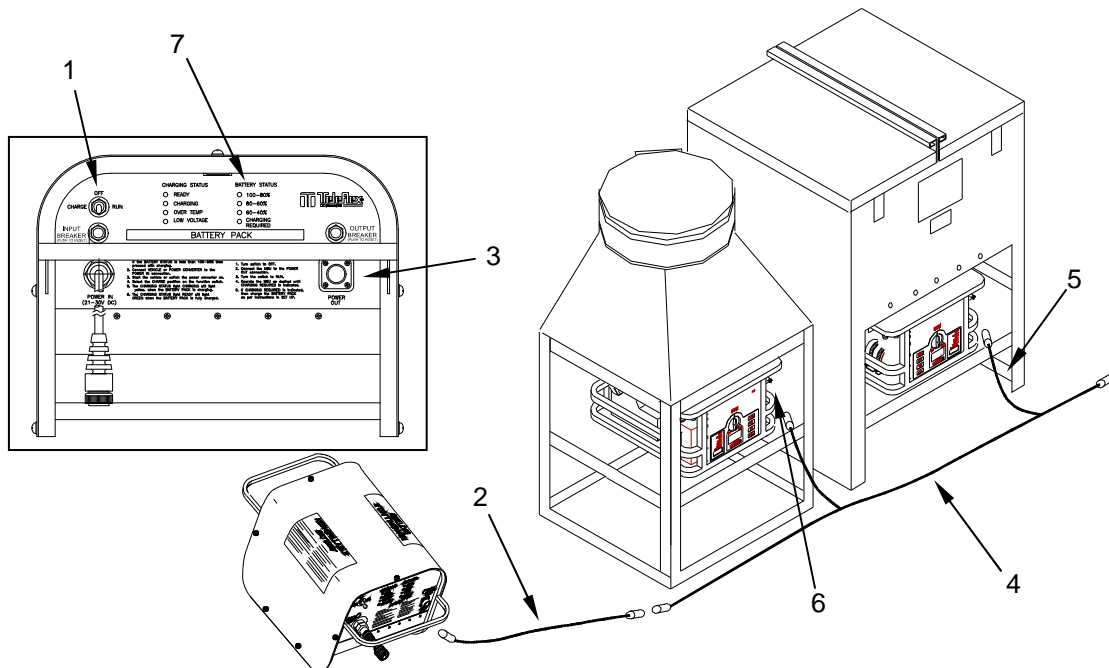

Figure 7. Connecting Power Cables Using the Battery Pack Alone.
1. With the battery pack 3-position function switch (Figure 7, Item 1) in the OFF position, connect one end of the 25-ft extension cable (if used for additional length) (Figure 7, Item 2) to the battery pack power output connector (Figure 7, Item 3).
2. Connect the opposite end of the 25-ft extension cable (Figure 7, Item 2) to one end of a 2-branch power cable (Figure 7, Item 4).
3. If the extension cable (Figure 7, Item 2) is not used, connect one end of the branch cable (Figure 7, Item 4) directly to the power output connector (Figure 7, Item 3) of the battery pack.
4. Connect the cable branches (Figure 7, Item 5) to the power-in receptacles (Figure 7, Item 6) of the individual burners.
5. In order to recharge the batteries, a 24VDC power source, such as a vehicle or power converter, should be made available during operation of the MBUs. When the battery pack is used as the power source to operate the MBUs, the charge indicator lights (Figure 7, Item 7) should be checked frequently to monitor the condition of the batteries. To recharge the batteries, connect the 25-ft NATO adapter cable to a vehicle equipped with a NATO connector and the power-in connector on the battery pack as described later in this work package.